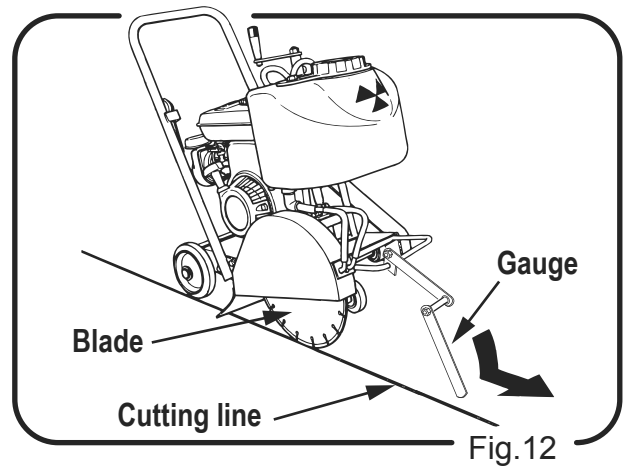

Fig.12
1. Align the blade with cutting line. (Fig.12)